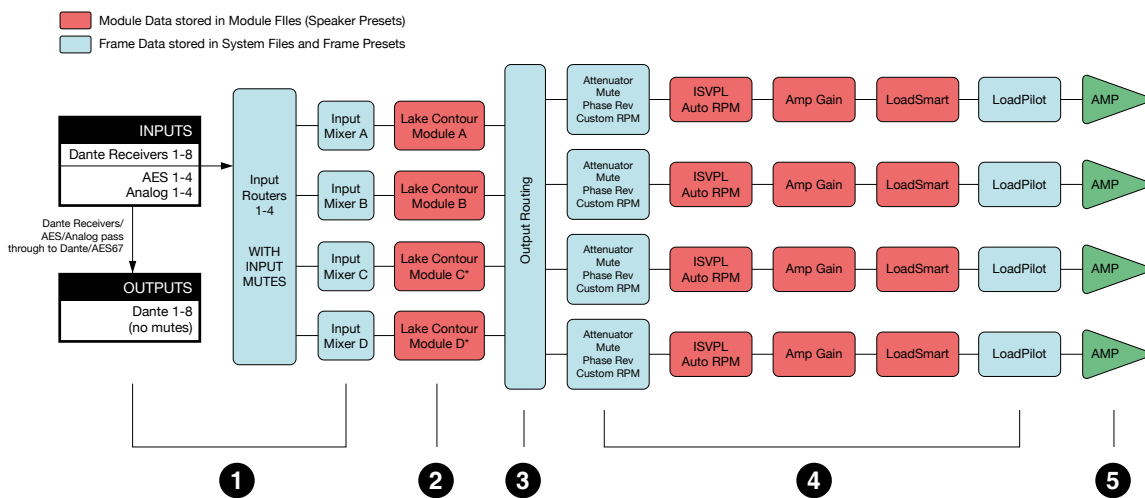

Figure 6.1: PLM+ Signal Flow Diagram
- A Module file is the smallest set of data that can be stored and recalled; it contains crossover, gain, delay, and limiter information for an individual loudspeaker (see Figure 6.1).
- A System or Sub-System Configuration File contains a set of Module file information in addition to Frame related information such Group data and I/O configuration (see Figure 6.1).